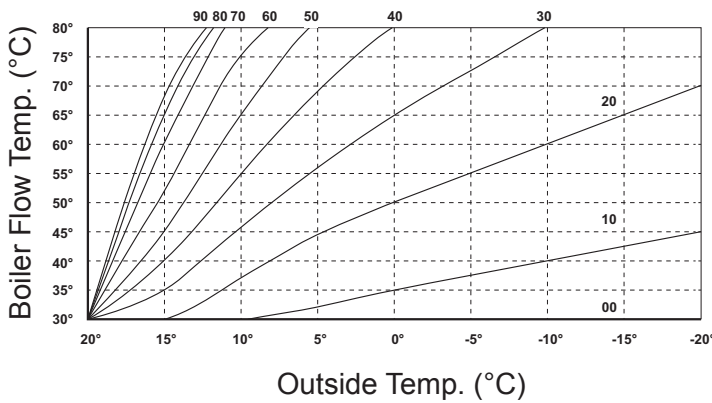

Fig. 37
2. The central heating control knob should be turned clockwise to the position which corresponds with the desired curve as shown on the graph (Fig. 37).
For example, if Curve '40' is selected (Fig. 37), at an outside temperature of 0°C the boiler flow temperature will be 80°C. Consider the type of dwelling and discuss with the user their requirements to determine the most appropriate curve.